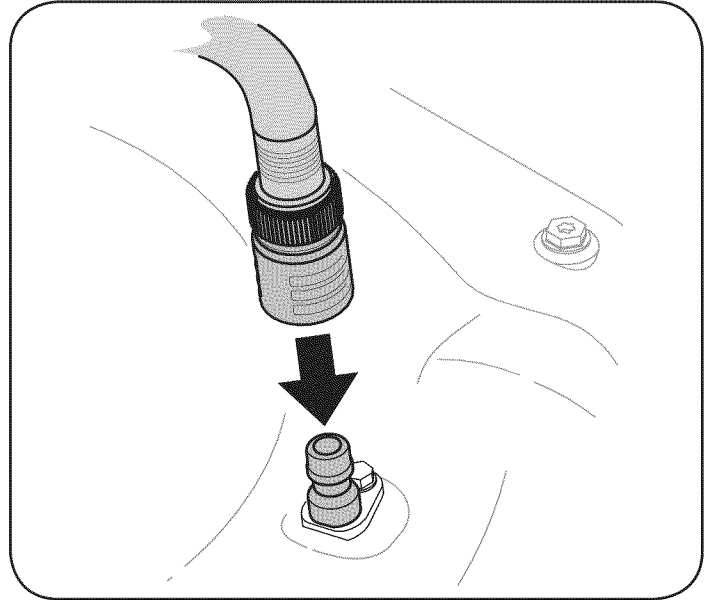

Figure 18
3. Attach garden hose with the deck wash nozzle to the water port on your deck's surface. See Figure 18.